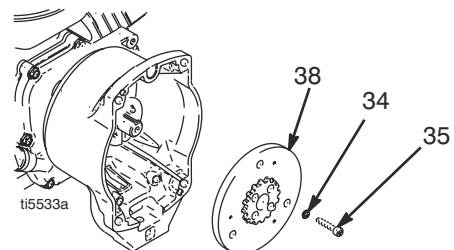

FIG. 6
9. FIG. 6. Use an impact wrench or wedge something between clutch armature (38) and clutch housing to hold engine shaft during removal.
10. Remove four screws (35) and lock washers (34).
11. Remove armature (38).